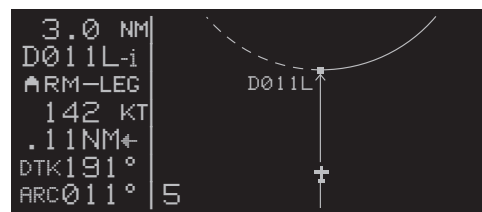

Figure 6-25
6. The KLN 900 will now provide guidance to the arc intercept point. The Super NAV 5 page displays the entire arc on the screen. The portion that is between the beginning of the arc and the arc intercept is drawn with a dashed line. The part that is between the arc intercept point and the end of the arc is drawn with the normal solid line (figure 6-25).